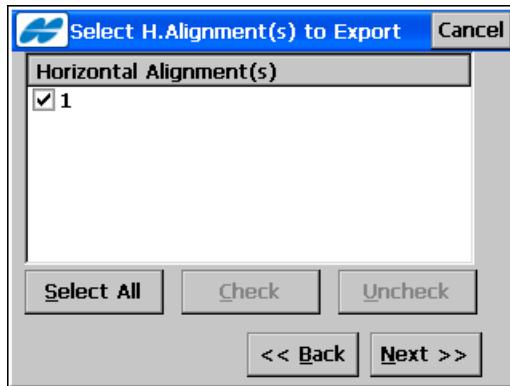

Figure 4-32. Select Horizontal Alignments
- **Next** – opens the *Select H.Alignment(s) to Export* screen to select alignments (Figure 4-32).
- **Select Road(s) to Export** for Alignments (Figure 4-32 on page 4-27 which is similar to this one)